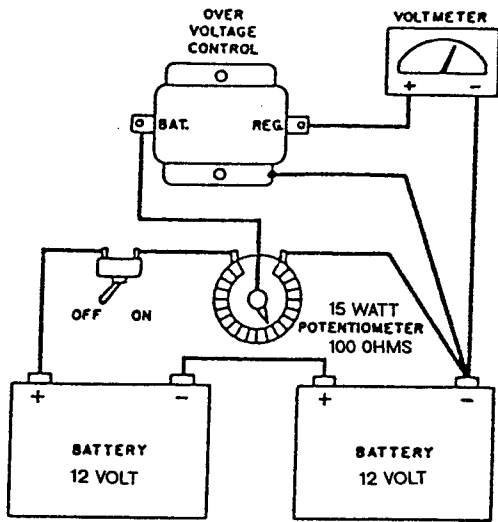

Figure 1. Over-Voltage Relay Test
6.3.3) The over-voltage relay, Prestolite part numbers X17621, X16799 or FOC-4002A, should be tested per page 3, Figure 1. Relays that do not pass the test must be replaced. The replacement part number is FOC-4002A for a 12-volt system.